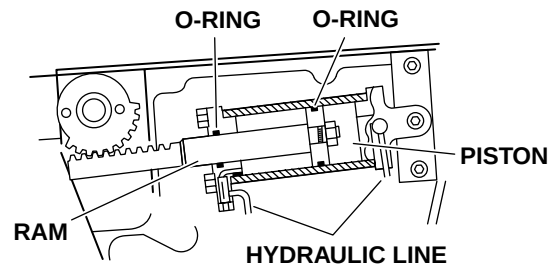

Figure 1-9. Back Section Cylinder
1. Back Section and Leg Section Cylinders - The double action cylinders are closed at one end and have a movable piston with hydraulic fluid on both sides. Connected to this piston is a ram or shaft that exits out of the other end of the cylinder. Through the use of either a gear, or clevis and pin arrangement, this ram is connected to a movable table surface. The movable surface can be moved one way or the other by pumping hydraulic fluid into the cylinder on either side of the piston. Obviously, if oil is pumped into one side of the cylinder, a return path must be provided for the oil on the other side. See figure 1-9.